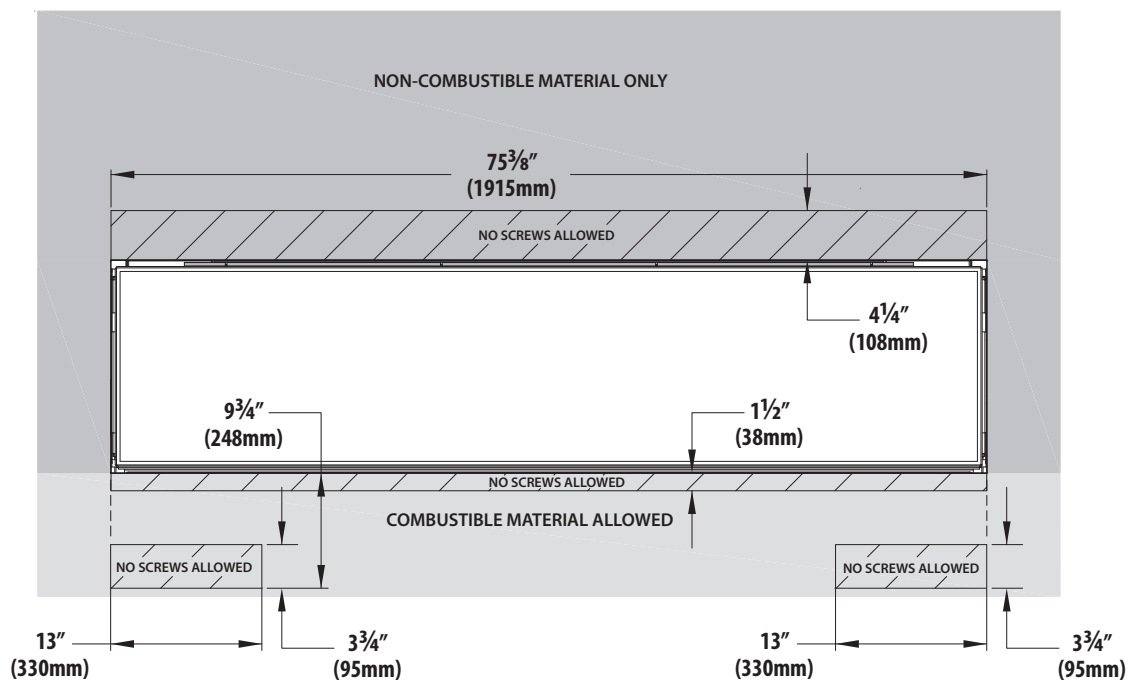

Figure 4.5, Minimum Non-Combustible Finishing Dimensions Screw Locations
- It is acceptable to pre-drill holes and to use self-tapping screws prior to attach the non-combustible material to the top and sides of the fireplace face. In Figure 4.5, screws can only penetrate the fireplace outer shell up to 1/2" (13mm) in the allowed areas.